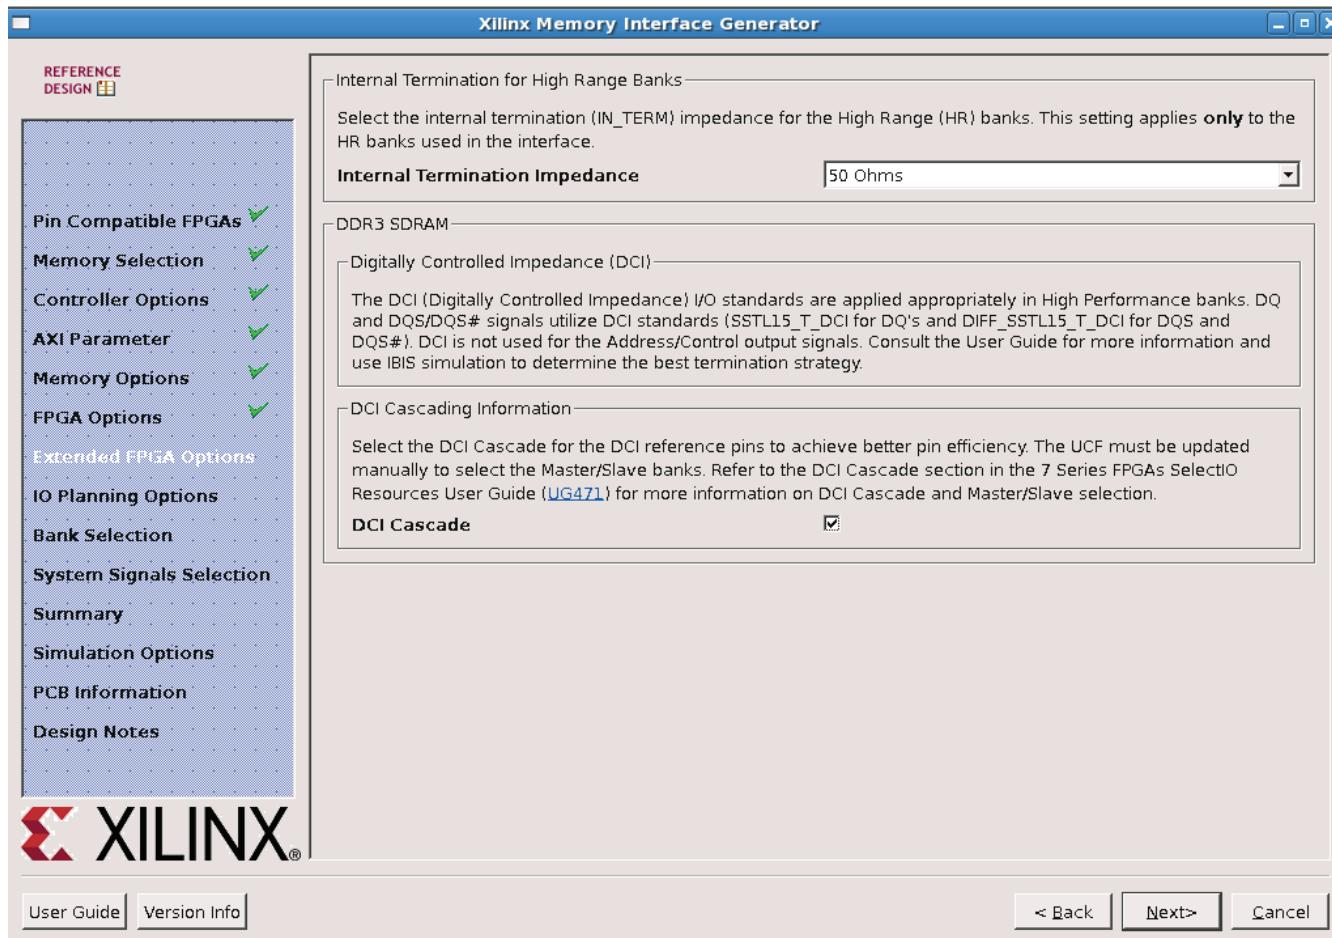

Figure 37: MIG Extended FPGA Options
25. For Extended FPGA Options, set Internal Termination Impedance to **50 Ohms** and check the **DCI Cascade** option. This matches the requirement for the KC705 board. Click **Next** (Figure 37).